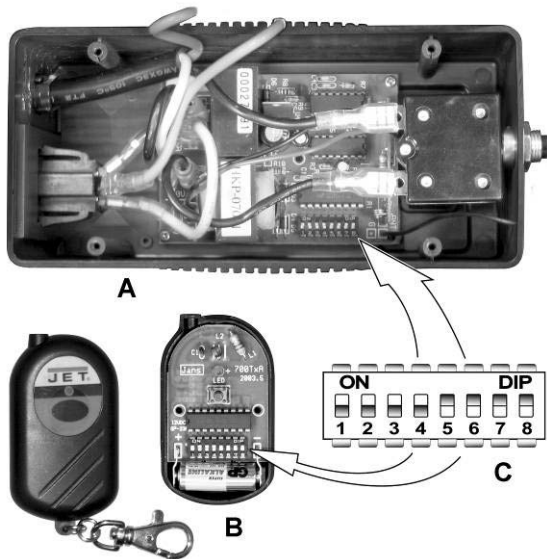

Figure 14
The *DC-RC Remote Power Control* (Figure 14) should be used for activating Dust Collection units powered by 115V only up to 1-1/2HP. The DC-RC Remote Power Control unit is rated at 115V, *Single Phase* only. Use an outlet rated at least 20 amps. The circuit for the device being controlled by the DC-RC should also be protected by a minimum 20 amp circuit breaker or fuse.
1. Plug the dust collector into the *main unit* (Figure 14) and plug the main unit into the power outlet.
Referring to Figure 14: